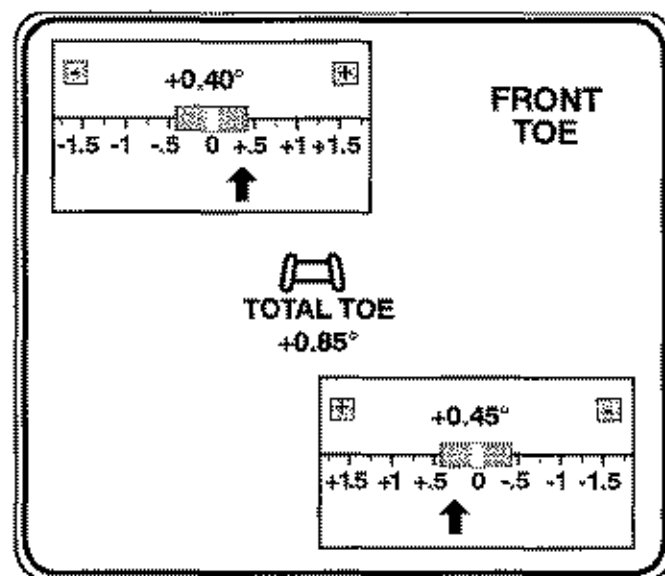
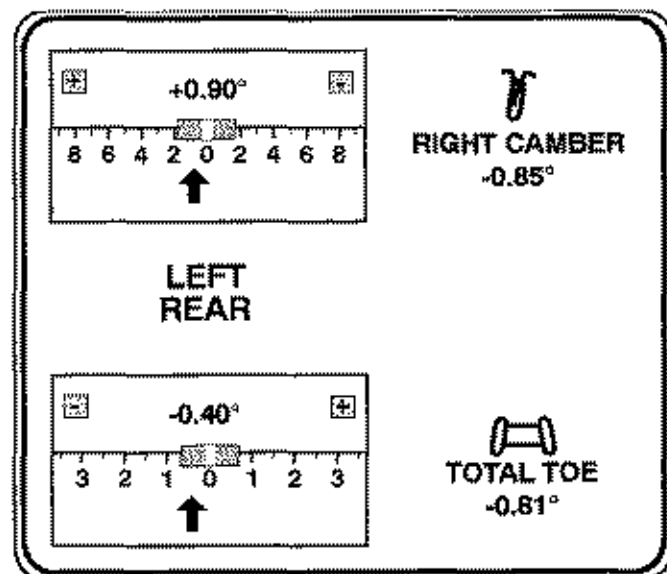
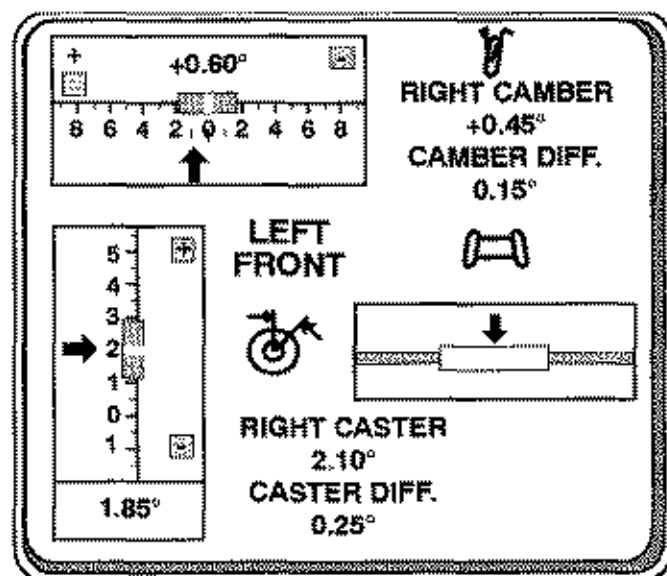

Figure 2-18
Figure 2-19
Figure 2-20
1. Press [TOE] to display toe meters. Then press one of the front wheel keys on the keypad to display the "front, right and left toe" meter screen (see Figure 2-18). Press a rear wheel key to display toe and camber meter for that wheel (see Figure 2-19).
2. Press [CASTER/CAMBER] to display caster/camber meters. Press a front wheel key on the keypad to display caster/camber meters for that wheel (see Figure 2-20). Press a rear wheel key to display toe and camber meters for that wheel (see Figure 2-19).